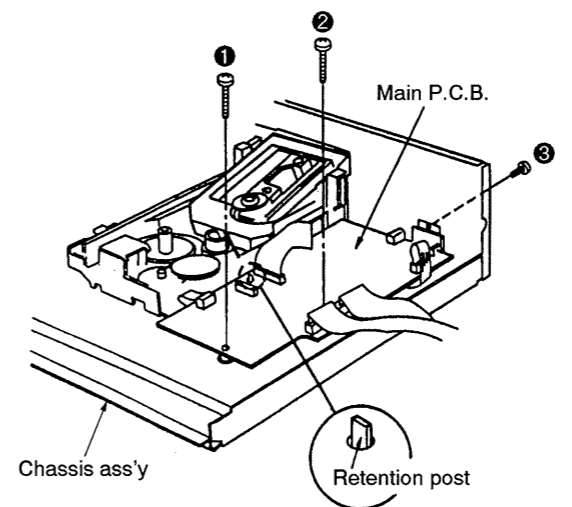

Fig. 1
4. Remove the 3 screws(1~3) as shown in Fig. 1.